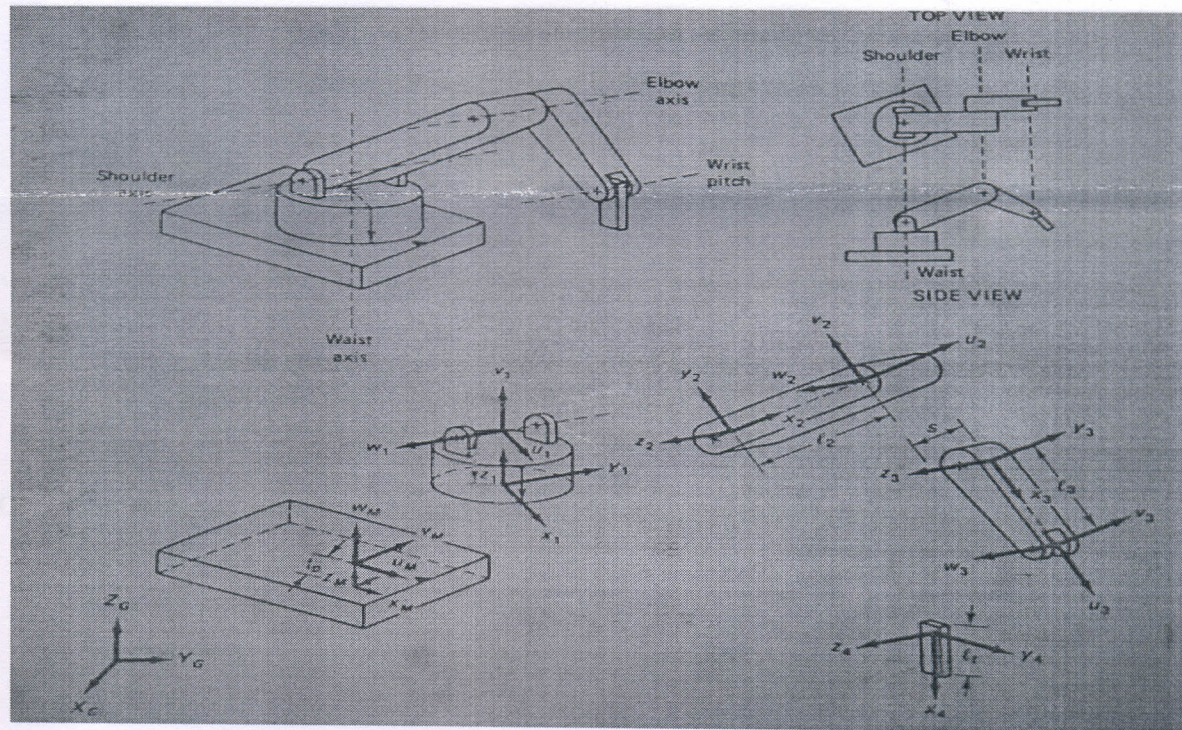

Fig 2.
Q. 6 a) what are the types of testing of handling characteristic of vehicle? Explain each of them in detail. (5)
b) Derive an expression for braking performance and stopping distance ? (3)
c) Explain air suspension with neat sketch? (2)
Q. 7 a) what are the numerical methods for determining the response of a quarter-car model to irregular surface profile excitation (5)
b) Write down the relation between input and output spectral density. (5)
Q. 8 a) use the same robot shown fig2 below. Suppose that the waist joint rotates 90° , the shoulder joints rotates 90° , the elbow joint rotate 0° , and the X, Y and Z translation between the base and global origin are 10, 10 and 0, respectively. Assume that the base thickness is 5, the waist thickness is 10, the offset on Z is 2 the length of the lower arm is 12, and length of the upper arm is 8. Also, suppose that the location of an arbitrary point is (5, 5, 5) with respect to the (U-V-W)₃ coordinate system. What is the location of point with respect to the global coordinate system? (10)